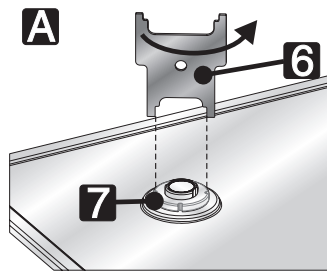

Fig. 3)
- use the wrench **6** (Fig. 3) to open the bayonet fastenings of the burner fixing rings, applying leverage on the guides **7**;